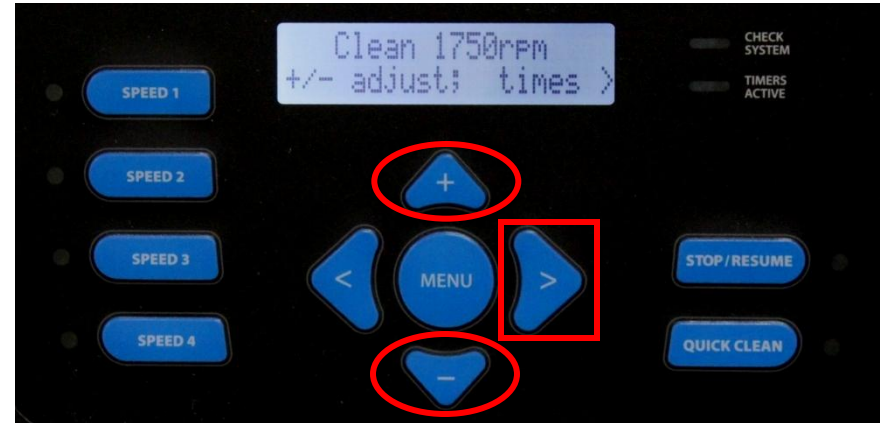

Fig 55
- This screen will allow you to adjust the speed setting from 600 RPM (17%) to 3450 RPM (100%) by pressing the  &  buttons (fig 55). Press the  button to continue.